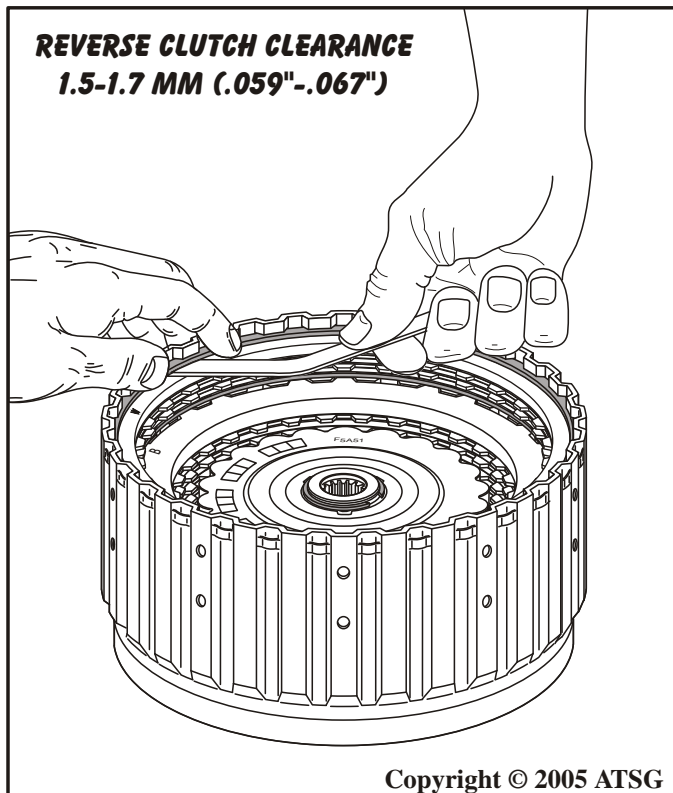

Figure 90
26. Compress the plates and measure with feeler gage between snap ring and backing plate, as shown in Figure 90.
Note: Proper compression can at times be achieved by hand, as shown in Figure 90, as there are only 2 friction plates.